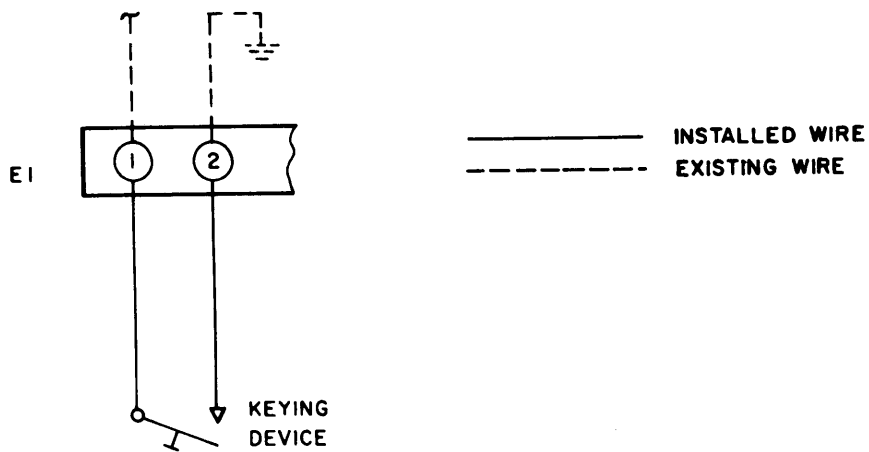

Figure 2-5. Installation Diagram, Keyer, GPE-1.
b. CW AND/OR MCW (KEY MODES). A key jack is provided on the front panel. However, if it is desirable to connect an external keying device permanently to the GPE, connections may be made at E1 terminal block as shown in Figure 2-5. An internal AF oscillator within the unit supplies the modulating frequency for MCW mode.